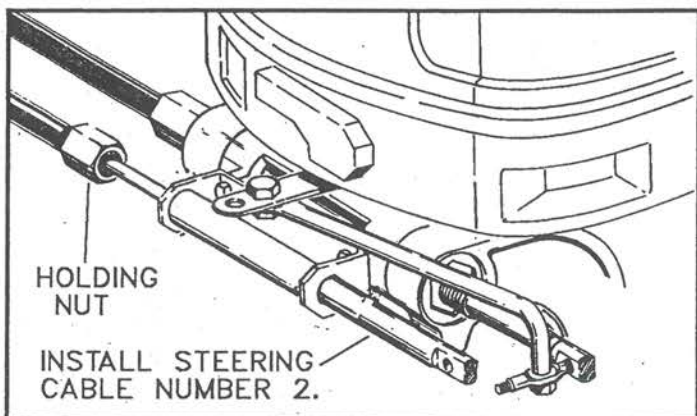

FIGURE 6 CABLE 2 INSTALLATION
C. Slip the large *Support Tube Nut* and *Locking Tab Washer* over *Cable Number 2*. Apply a coat of marine grease to the *Cable End*. Insert the *Cable* thru the *Mounting Bracket* holes **WITHOUT** the *Support Tube* installed. Turn the *Steering Wheel* to extend the *Cables* to their full length, then back off 1/4 turn. See **Figure 6**.